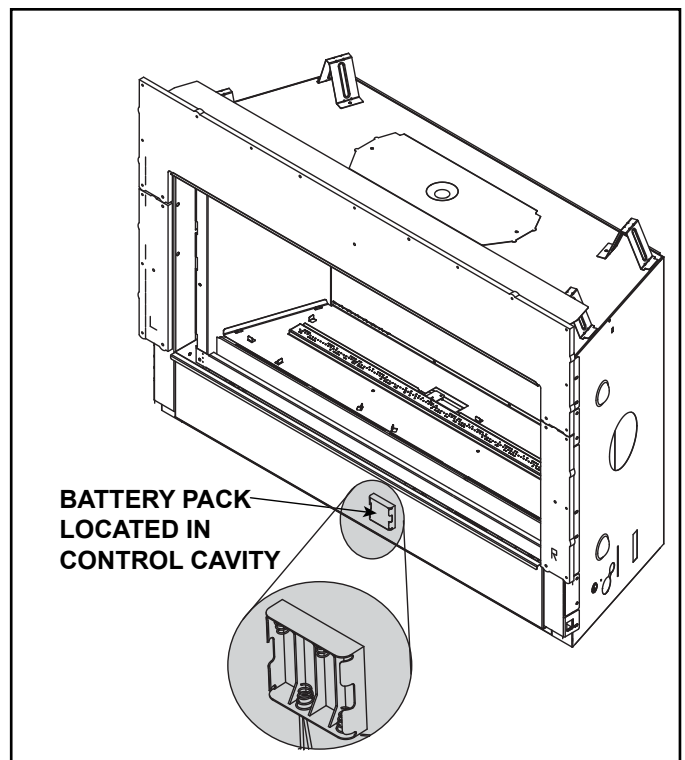

Figure 3.6 Battery Pack Location/Control Cavity
The Intellifire™ Touch intermittent pilot ignition system comes with a battery backup system that enables the system to operate in a power outage. The system offers seamless transition from household AC power to battery backup. A factory-installed battery pack is located in the control cavity of the appliance. See Figure 3.6. Battery longevity and performance will be affected by long term exposure to the service temperatures of this appliance.
1. The battery pack is located in the control cavity of the appliance. To access the control cavity of the appliance Remove the decorative front and glass assembly. See Section 4 for instructions on glass assembly removal. See Figure 3.6 for location of battery pack.
2. Locate the battery pack and remove it from the control cavity. It is held in place by hook and loop fastener. Insert four AA cell batteries. Battery polarity must be correct or module damage will occur. See Figure 3.6. A complete wiring diagram is included in the Electrical section of the appliance Installation Manual.